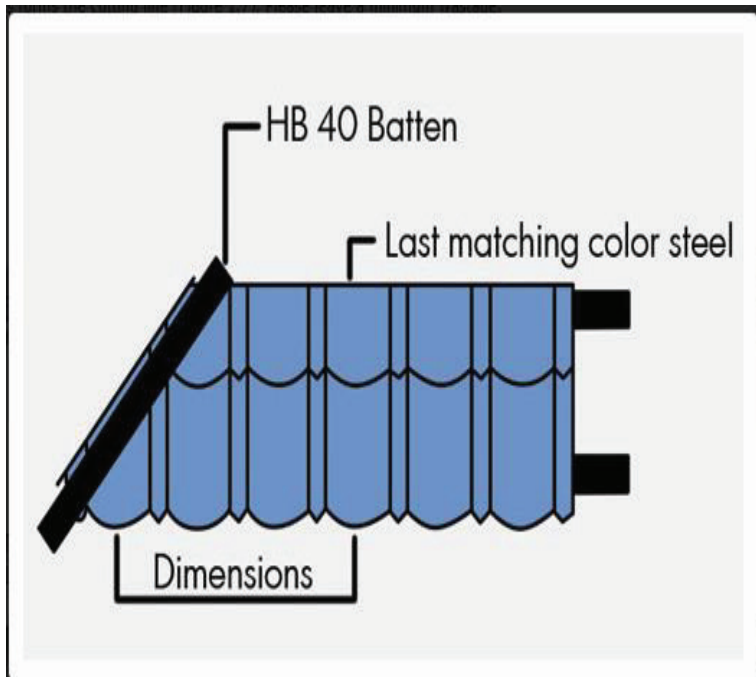

Figure 1.4
- 1) The measurement is taken from the last corrugation of the bottom corner of the last tile, to the hip board, along the front edge of the batten (Figure 1.4).